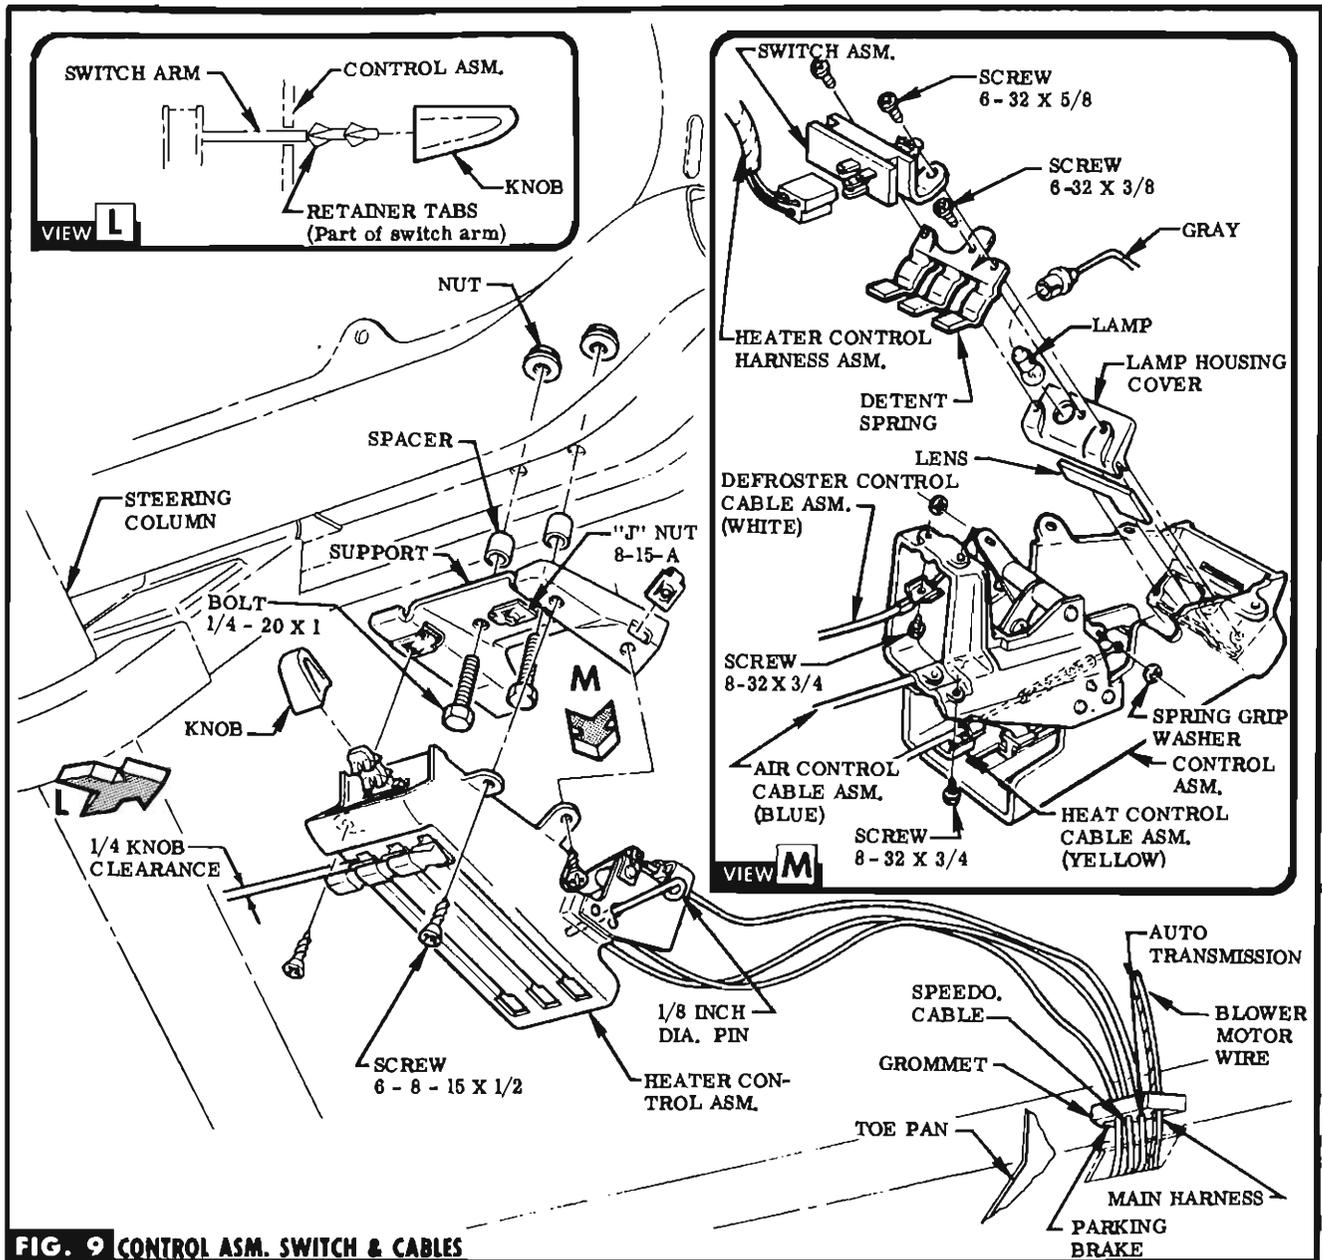

FIG. 9 CONTROL ASM. SWITCH & CABLES
STEP 47 RAISE ALL CONTROL LEVERS TO THE TOP OF THEIR SLOTS & INSERT 1/8 INCH DIA. PIN THRU HOLES IN CONTROL ASSEMBLY. SEE FIG. 9.
STEP 48 ATTACH HEAT & AIR CABLES TO CONTROL WITH SCREWS (IN BAG A). SECURE WIRE LOOPS OF CABLES TO RESPECTIVE CONTROL LEVERS WITH SPRING GRIP WASHERS (IN BAG A). SEE FIG. 9 & VIEW M.
STEP 49 ATTACH DEFROSTER CABLE TO CONTROL WITH SCREW (IN BAG A). SECURE WIRE LOOP OF CABLE TO RESPECTIVE CONTROL LEVER WITH SPRING GRIP WASHER (IN BAG A). SEE FIG. 9 & VIEW M.
SECURE WITH EXISTING RETAINER. REINSTALL MAIN HARNESS & BLOWER MOTOR WIRE, ETC. IN NEW GROMMET. SEE FIG. 9.
STEP 51 WITH SWITCH ARM IN "OFF" POSITION ASSEMBLE KNOB (IN BAG A) TO ARM WITH A STRAIGHT PUSH UNTIL KNOB LOCKS ON RETAINER TABS OF SWITCH ARM. A MAXIMUM FORCE OF 40 LBS. WILL ASSEMBLE KNOB IN PLACE. ALL RETAINER TABS MUST BE WITHIN THE CAVITY OF THE KNOB. SEE FIG. 9 & VIEW L. **CAUTION** Do not rock knob vertically during assembly, as this will bend switch arm.
STEP 52 INSTALL HEATER CONTROL SUPPORT TO INSTRUMENT PANEL WITH BOLTS, SPACERS & NUTS (IN BAG A). SEE FIG. 9.
STEP 54 SLIP J-NUT (IN BAG A) IN PLACE ON SUPPORT & INSTALL HEATER CONTROL TO SUPPORT WITH SCREWS (IN BAG A). SEE FIG. 9.
STEP 55 ROUTE DEFROSTER CABLE ALONG RIGHT SIDE RAIL THRU TOE PAN OPENING, GROMMET & TO HEATER CONTROL AS SHOWN IN FIG. 9 & 10. ALIGN TAPE OR PAINT MARKS ON THE CABLES DIRECTLY BELOW FLOOR TO TOE PANEL BREAK LINE BEFORE CLIPPING TO UNDERBODY. ROUTE ALL CABLES ALONG RIGHT SIDE RAIL & ATTACH
STEP 60 PULL ON HEAT & AIR CONDUIT TO REMOVE LASH & CAUSE CONTROL LEVERS TO SEAT AGAINST 1/8 INCH DIAMETER PIN. THIS WILL GIVE KNOBS 1/4 INCH CLEARANCE TO TOP OF SLOTS. HOLD IN POSITION & TIGHTEN CABLE CLAMP. SEE VIEW N & FIG. 9.
STEP 61 PUSH ON DEFROSTER CONDUIT UNTIL LEVER SEATS BACK AGAINST 1/8 INCH DIAMETER PIN. HOLD IN POSITION & TIGHTEN CABLE CLAMP. SEE VIEW A & FIG. 9.
STEP 62 REMOVE 1/8 INCH DIA. PIN FROM HEATER CONTROL ASSEMBLY. SEE FIG. 9.